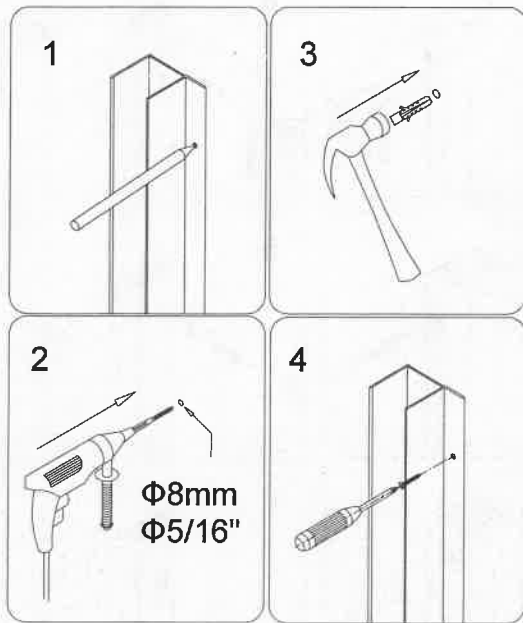

Fig 10
8. Gently move the assembled unit on the side, and then drill through the pre-marked holes, insert **Wall anchor (09)**, and fastening by the **Big head screw ST4.2x40 (06)**. See Fig 10 for details.